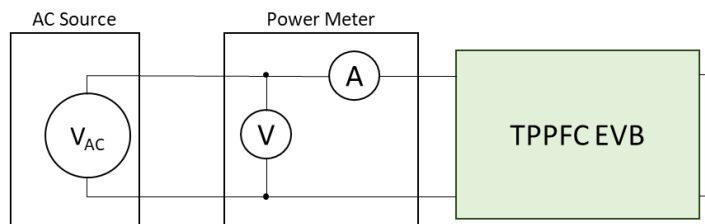

Figure 6 - Test set up for no load power measurements
- Figure 6 illustrates the arrangement to measure no load power.
2. The no load power was obtained employing a GW Instek GPM-8310 power meter integration feature for more than 20 minutes. The power meter was wired as illustrated in Figure 6.